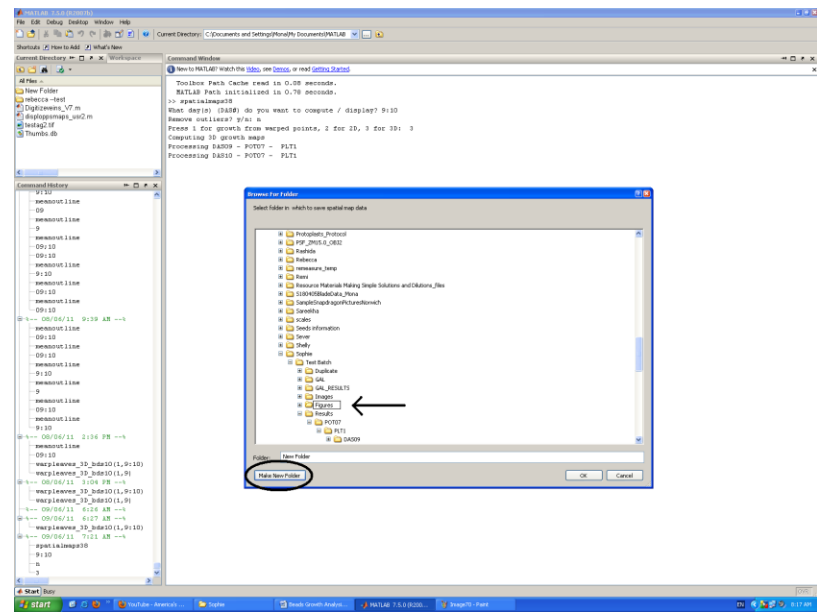

Figure 26. Creating a new folder
6. In the browsing window, create and name a new folder (ex. Figures) in which to save spatial map data. Use the "Make New Folder" button in the lower left corner of the window (Figure 26).